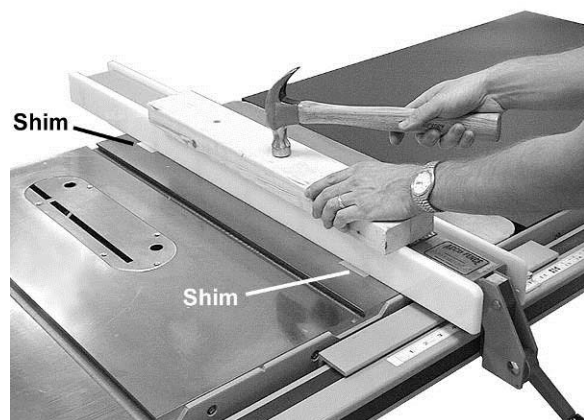

Figure 17
3. Reposition the *Accu-Fence* on the table and place the *plastic shims* (included with the shipping contents) beneath the side plates. With the hammer and wood block, tap the sides down until they contact the shims as shown in Figure 17.